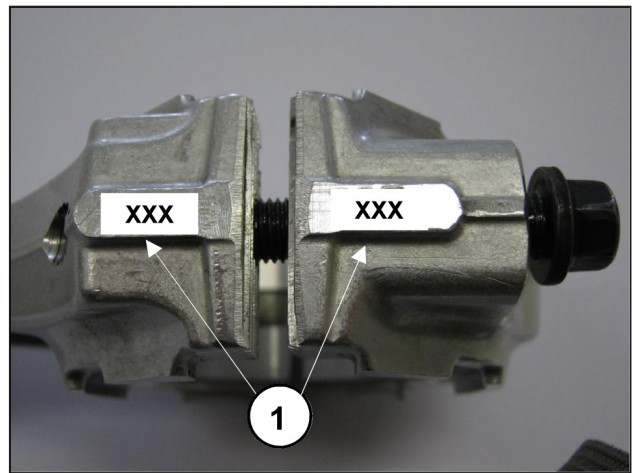

Fig. 9
- Couple the con-rod caps to their shanks, referring to the numbering (Fig. 9, pos. ①). **Note the correct assembly direction of the caps.**